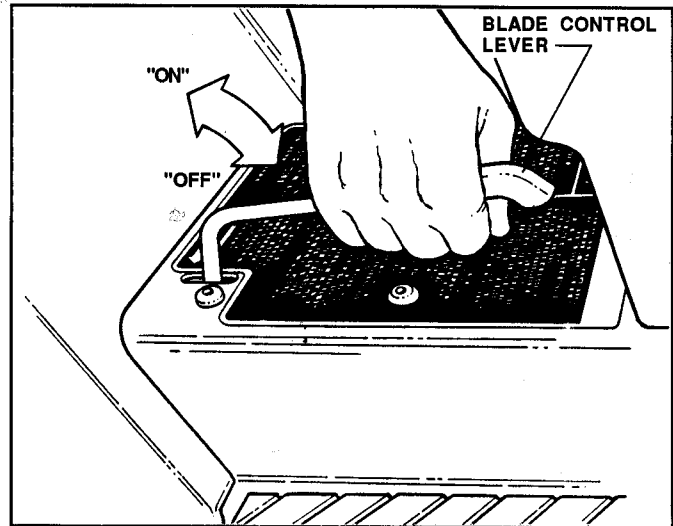

FIGURE 4
**MOWER BLADE:** *STOP MOWER BLADE* by pushing BLADE CONTROL lever downward to "OFF". See Figure 4.
1. PUSH BLADE CONTROL LEVER downward to "OFF" position (Fig. 4) and fully depress the CLUTCH/BRAKE PEDAL (Fig. 7), so that Safety Interlock System will allow engine to start.